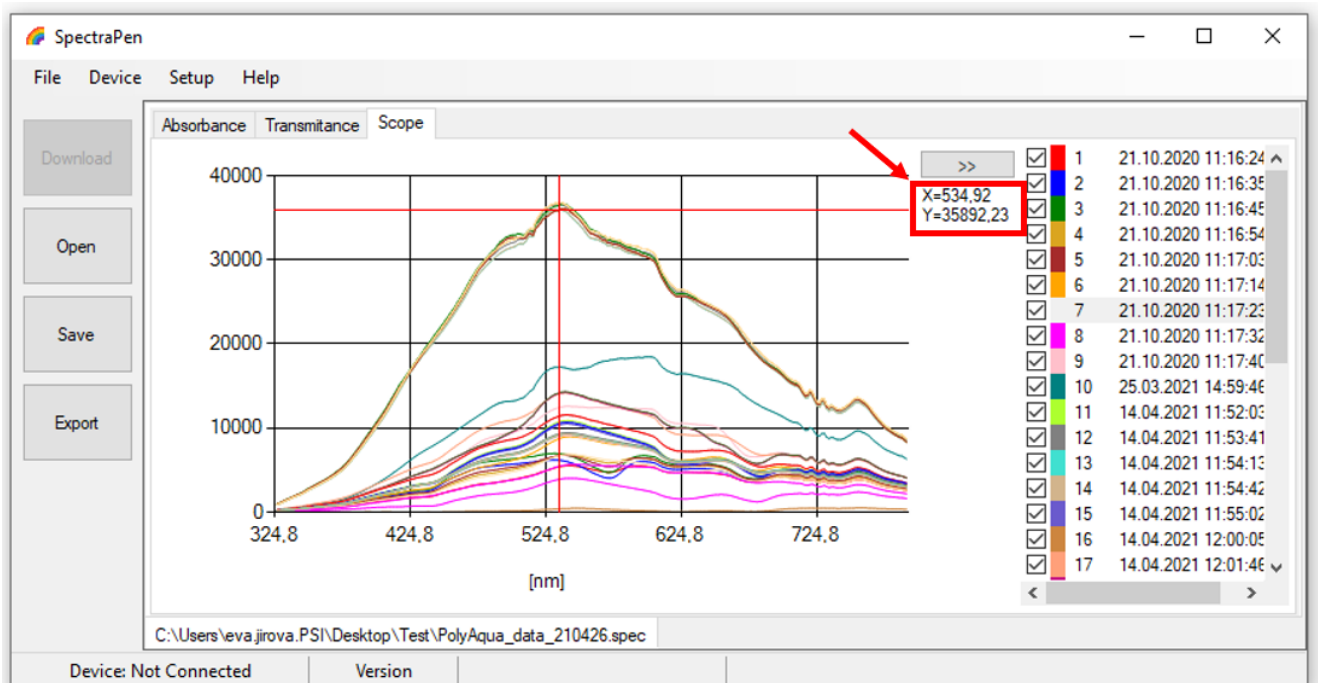

Fig. 29 Marker function.
- In the graph **marker** feature is available, which enables display of the numeric values for wavelength and transmittance or absorbance for the selected wavelength of the scan (Fig. 29). Use the mouse to select the given point. In top right corner of the graph (green rectangle) is displayed exact value for the selected point on the x-axis and y-axis.